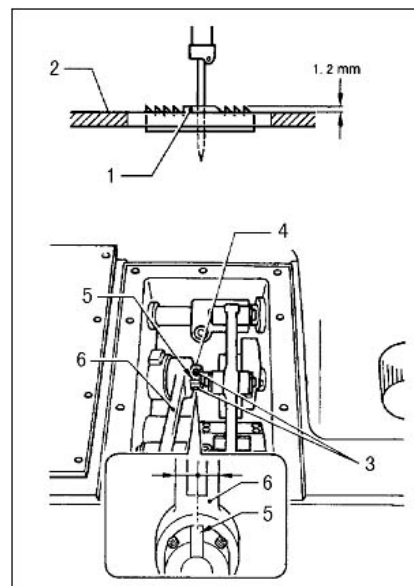

Fig.29
### (2) Vertical feed direction(showed by Fig.29)